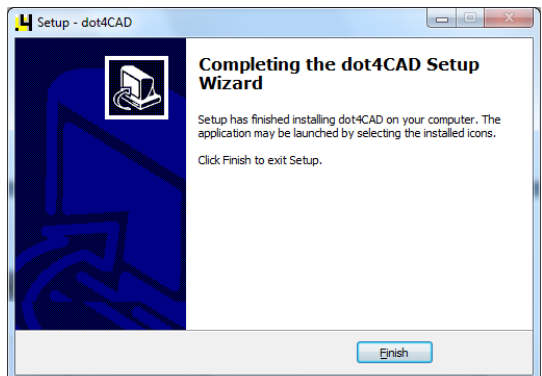

Fig. 41 – new version of dot4CAD successfully installed
- After completing the installation, the wizard will ask the user to close the **Setup – dot4CAD** dialog – by clicking **Finish** (Fig. 41);